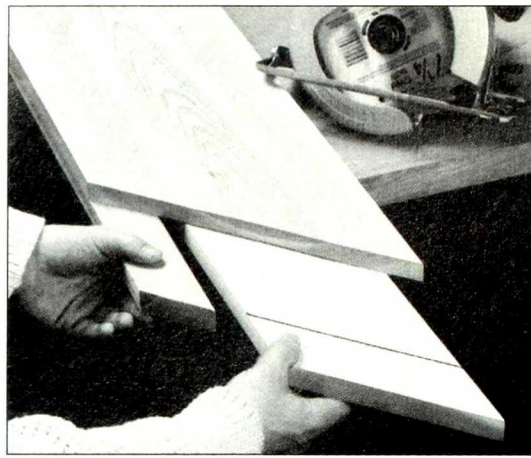

Figure 2: A miter jig will help you cut the mitered ends of all the tabletop boards.
- Draw center lines along the length of the H pieces on the top side of the spider. Build the tabletop by screwing on the inner ring first, and progressively adding rings. All but the outer ring are aligned to these center lines and screwed through the holes in the spider. The outer ring is attached by screwing through the cleats (L).
- You can make a 45-degree mitering jig to use with your circular saw to cut the ends of the ring boards (Figure 2), or you can use an adjustable square.